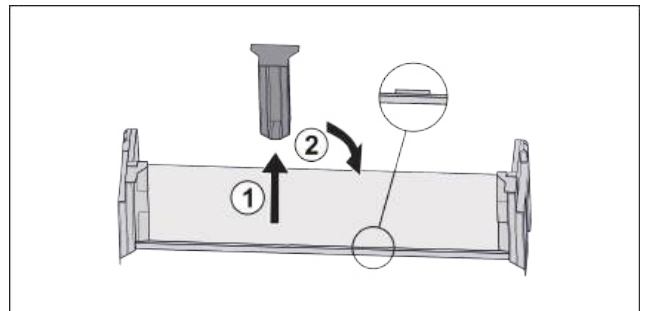

Fig. 96
- ▶ Pull off the middle holder Fig. 96 (1).
- ▶ Insert the middle holder in the second position Fig. 96 (2).